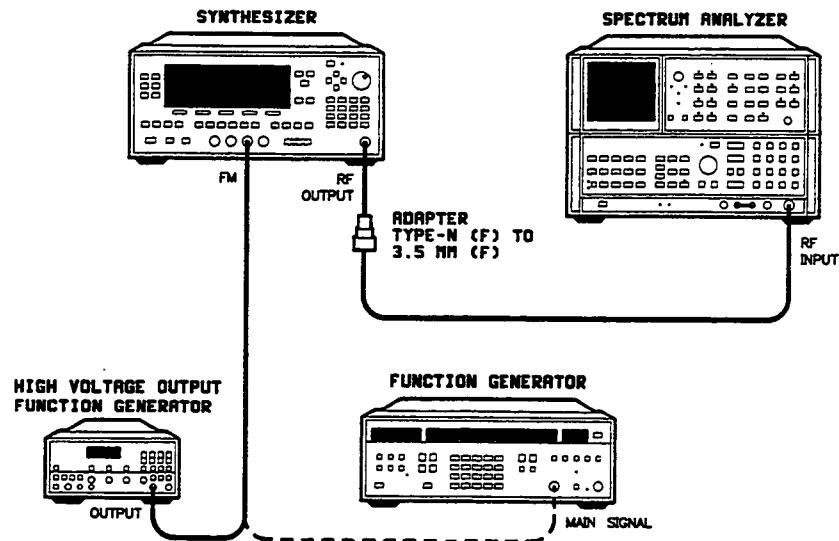

Figure 2-24. Maximum FM Deviation Test Setup
1. Connect the equipment as shown in figure 2-24. Preset all the instruments and let them warm up for at least one hour.